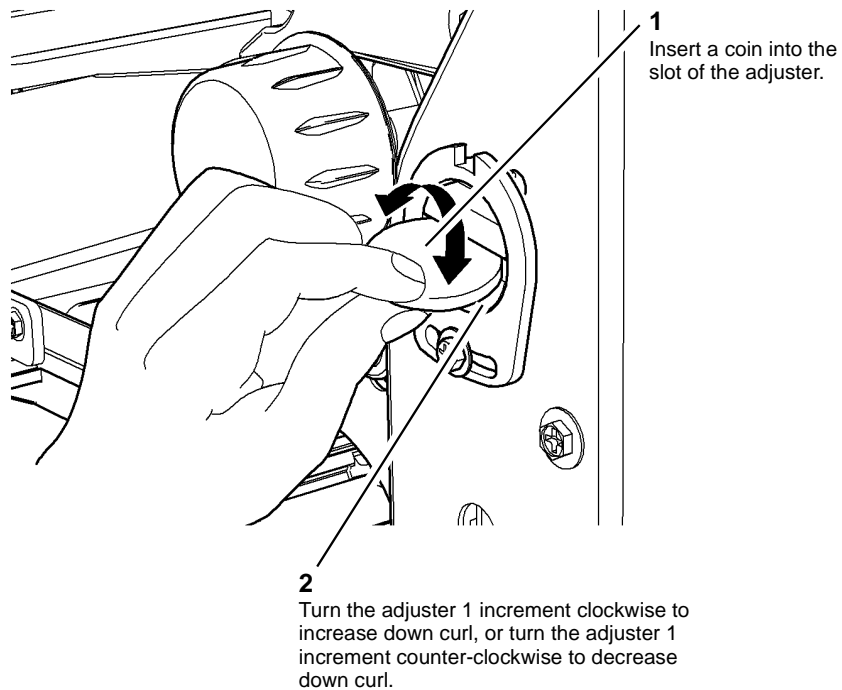
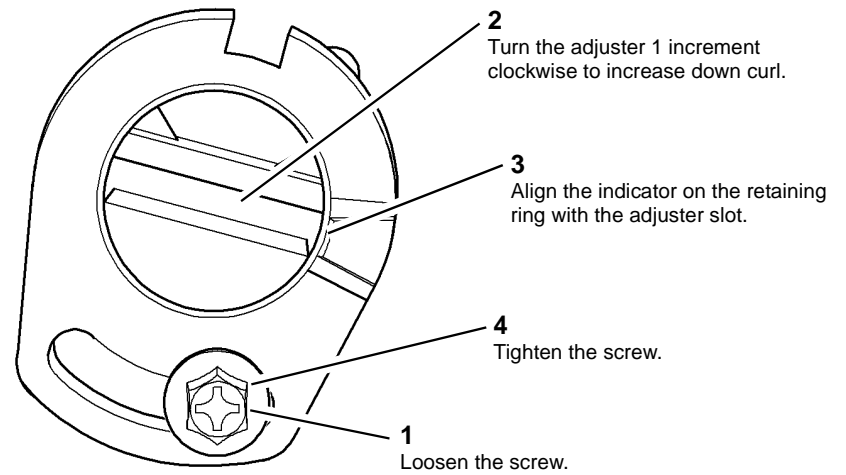
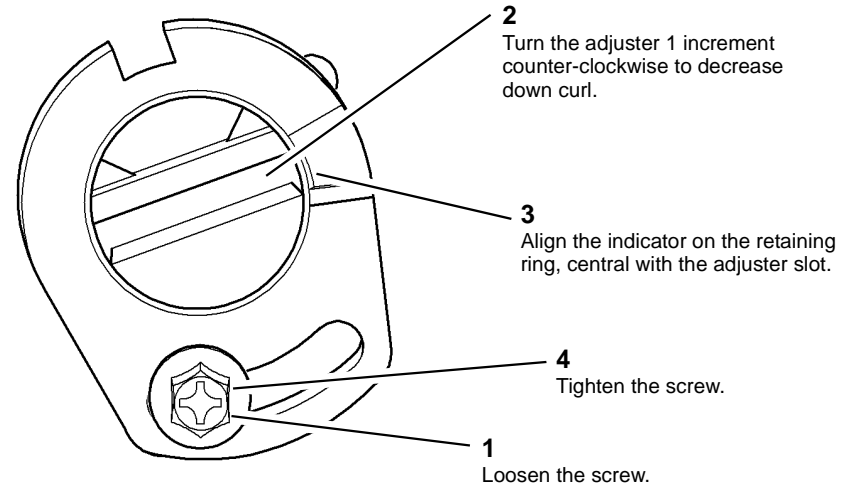

Figure 2 Adjust the initial calibration
Figure 3 Increase down curl
Figure 4 Decrease down curl
NOTE: The initial calibration procedure should give acceptable results for 80gsm paper and most other print media. However, for non-Xerox paper, pre-printed paper and card it may be necessary to adjust the initial calibration, Figure 2 or reset the inverter decurler retaining ring, Figure 3.
- a. Adjust the initial calibration, Figure 2.
- c. Assess the copies for curl, refer to IQ5. If output curl is evident then reset the inverter decurler retaining ring to allow for further adjustment, refer to Figure 3 and Figure 4.
- a. Reset the position of the retaining ring. To increase the down curl on output copies, see Figure 3. To decrease the down curl on output copies, see Figure 4.